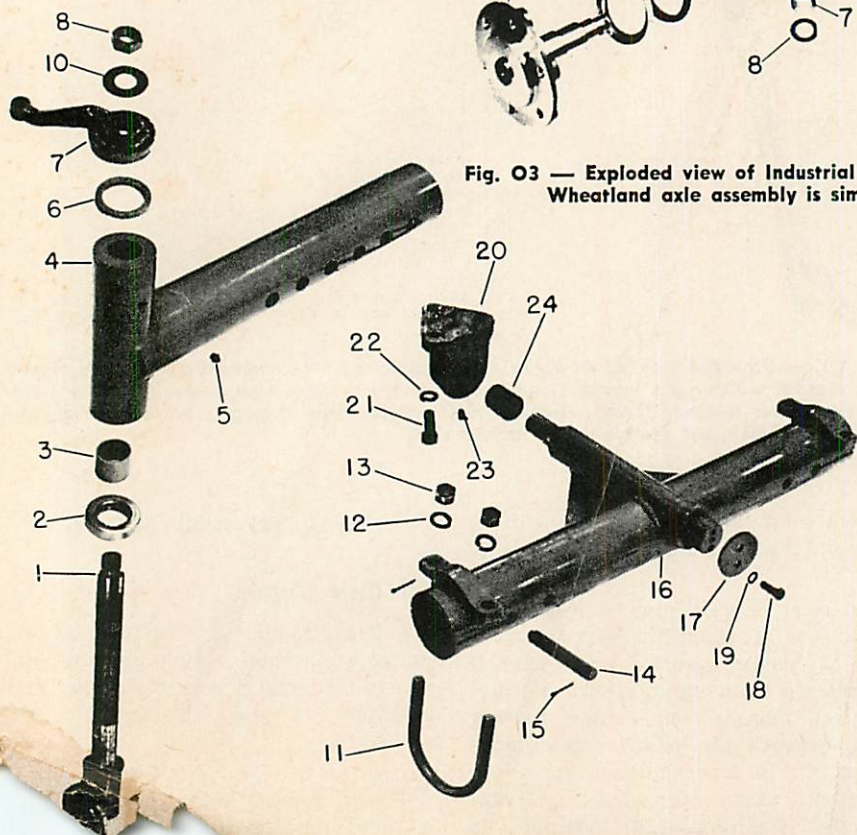

Fig. O2 — Exploded view of Utility front axle assembly.
5. To remove the steering knuckles (1—Fig. O1 or Fig. O2) and renew bushings (3), support front end of tractor and remove tire and wheel assembly. Straighten tab of washer (10) and remove nut (8). Remove steering arm (7) from knuckle and withdraw knuckle from axle extension.
A thrust washer (2—Fig. O1) is used between knuckle and axle extension on Rowcrop models; Utility models are fitted with a thrust bearing (2—Fig. O2). Install thrust bearing on steering knuckle with washer side down. Install thrust washer on Rowcrop knuckle with either side up. Insert knuckle into axle extension, install new felt (6) and install steering arm (7) extending to rear and at approximately 90° to wheel spindle.